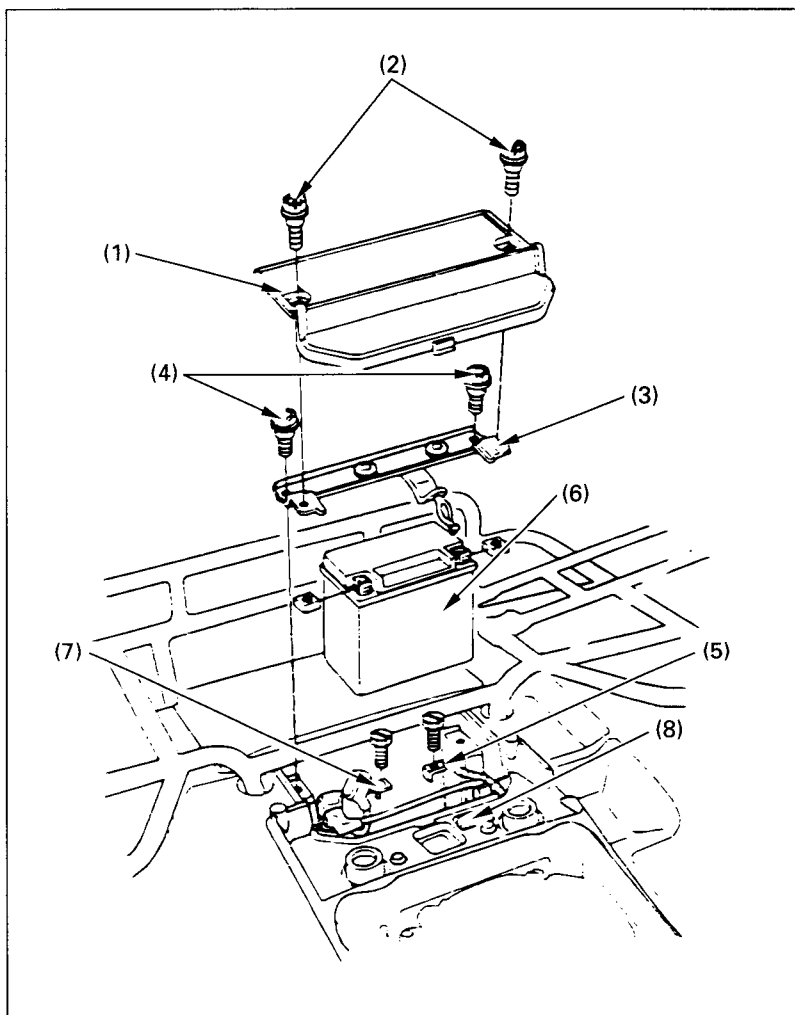

Fig. 4-21
3. Remove the battery box cover (1) by removing the mount bolts (2).
4. Remove the battery holder (3), (Fig. 4-21) by removing the mount bolts (4).
5. Disconnect the negative (-) terminal lead (5) from the battery (6) first, then disconnect the positive (+) terminal lead (7).
- * After installing the battery, check to see if the battery cables are routed correctly as shown on the label (8).